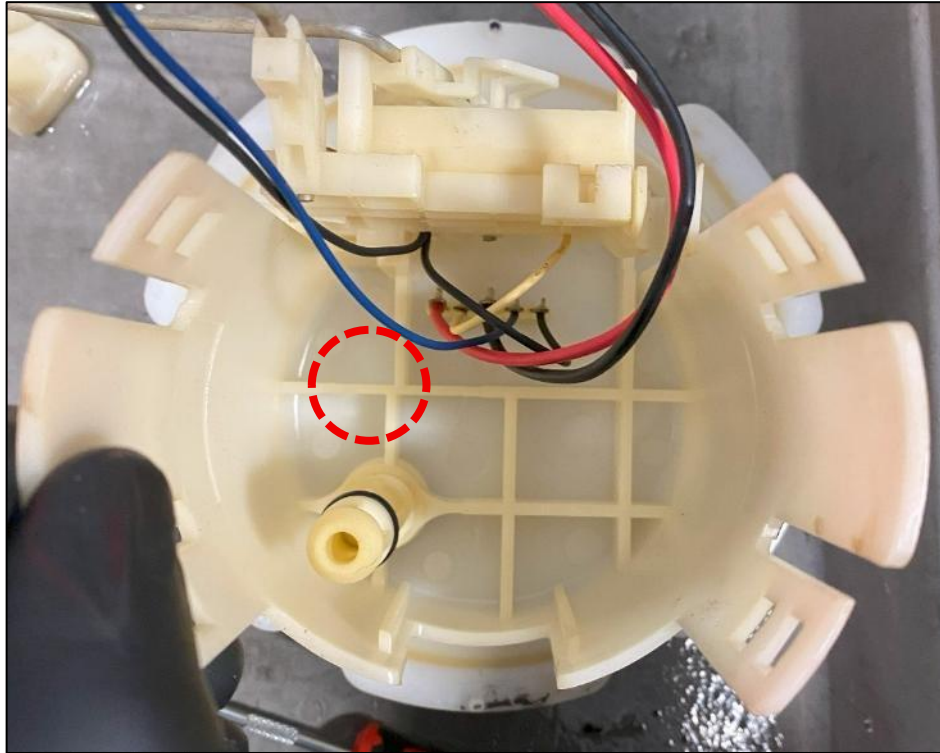

Figure 22
14. Locate the Top Half of the Basket Assembly. A hole will need to be drilled and the webbing on the underside will need to be removed as well to position a Washer. Mark the areas indicated below with a marker. There is a slight circle imprint from the molding that can be used as a reference. *Figure 22.*